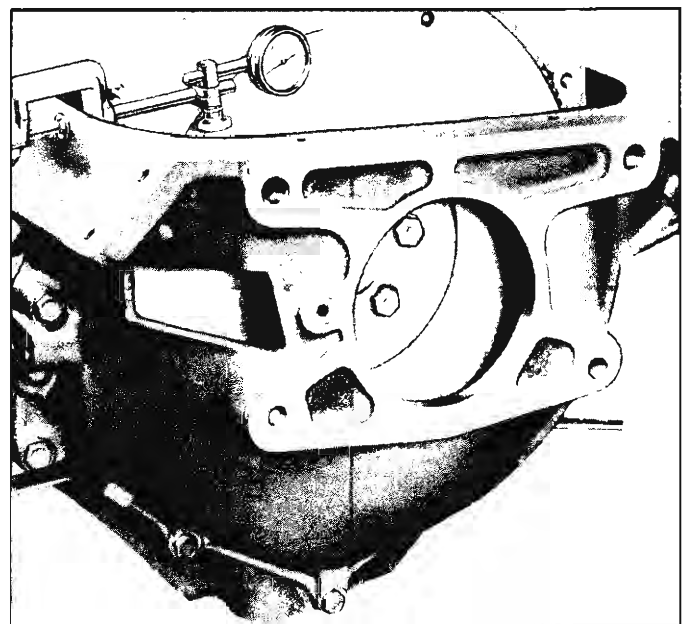

Fig. 110—Checking Flywheel Runout
5. Mount a dial indicator on the clutch or flywheel housing so that the button of the indicator will contact the machined surface of flywheel (fig. 110), and check the flywheel runout.